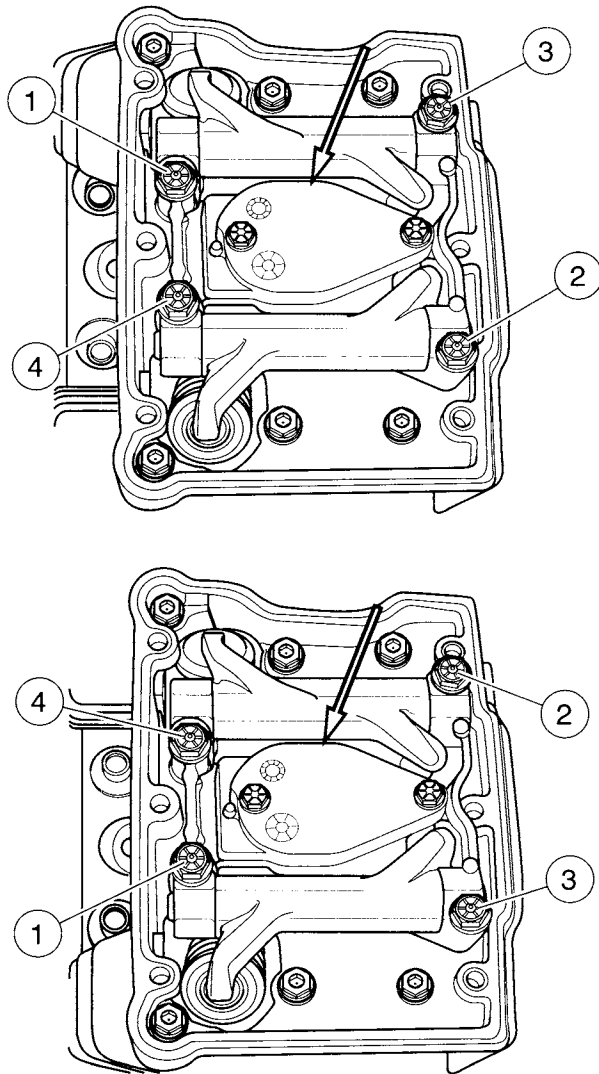

Figure 3-20. 1/4 Turn Rocker Arm Bolts in Sequence
5. See Figure 3-20. Remove two bolts to release breather assembly (arrow) and filter element from the rocker arm support plate. For inspection and repair information, see 3.20 BREATHER ASSEMBLY.